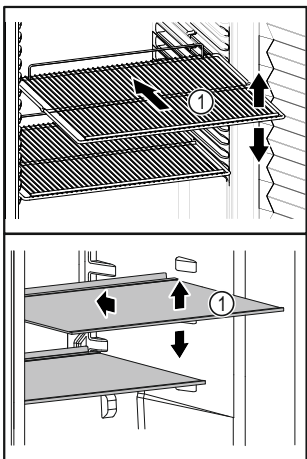

Fig. 59 Example illustration
- ❑ If shelves Fig. 59 (1) can be moved, adjust the shelves according to the height.